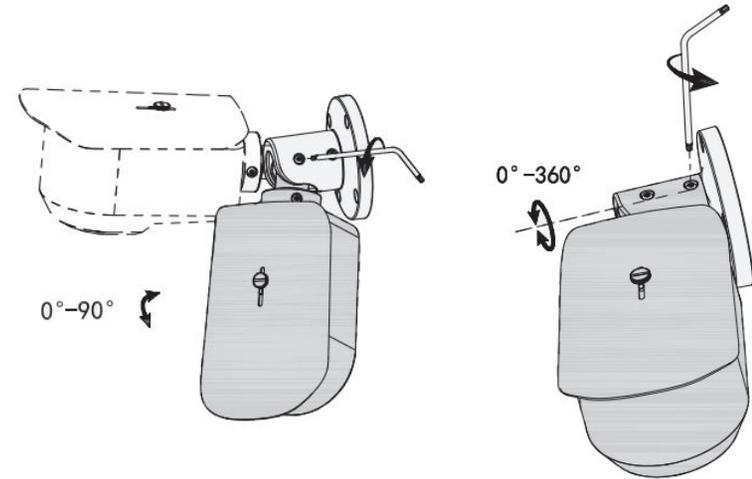

Figure 2-2
**Step 3** To swivel the camera body, loosen the tension screw on the base closest to the camera body. To rotate the camera from the base loosen the tension screw near the base of the camera shown on Figure 2-2. Tighten the tension screws when finished.